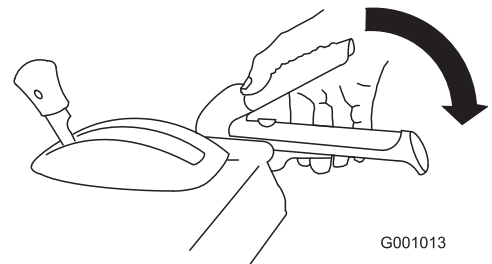

Figure 38
2. Engage the auger/impeller lever and hold it in place (Figure 38).